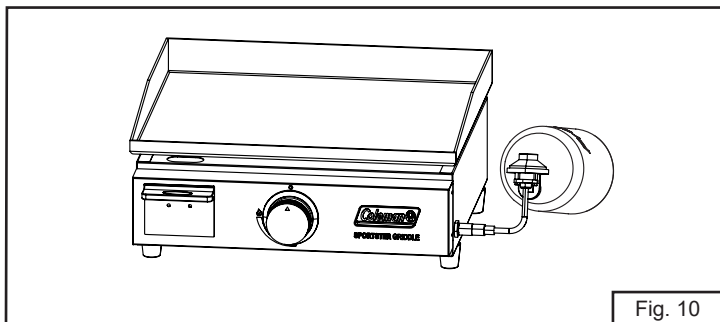

Fig. 10
8. Now you will have your griddle fully assembled (Fig. 10). Place it to the desired place, adjust the feet to ensure it stay level.